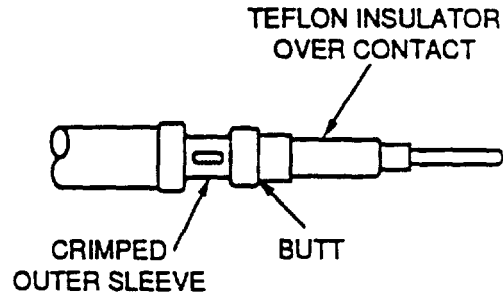

Figure 26. Mount Teflon Insulator
h. Install teflon insulator over contact until it bottoms. Slide outer sleeve to butt spacer and crimp in place using crimp tool frame M22520/20-01 and positioner M22520/20-02 (Figure 26).